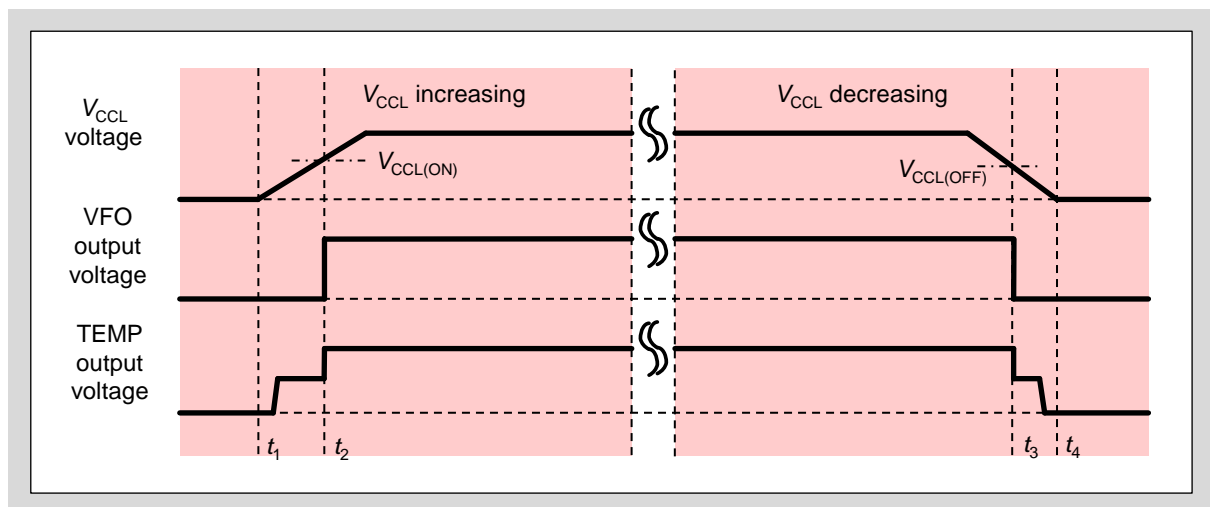

Fig. 3-26 Operation sequence of TEMP terminal during startup and shutdown
- Fig. 3-26 shows the operation sequence of the TEMP terminal during startup and shutdown of product.